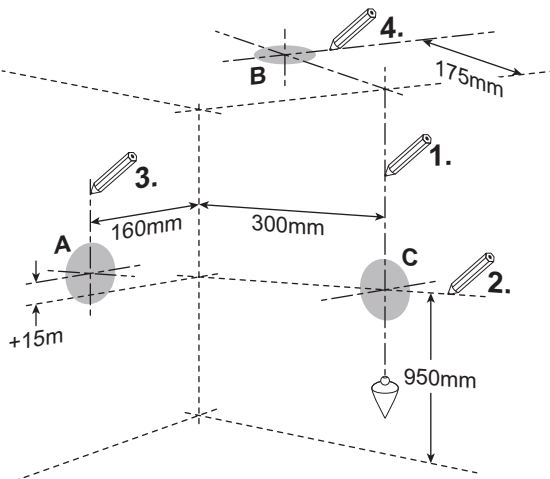

Fig. 28
- ▶ Refer to figure 28 and mark the centre of the flue [1 & 2] for rear opening, [2 & 3] for side opening or [1 & 4] for top opening.